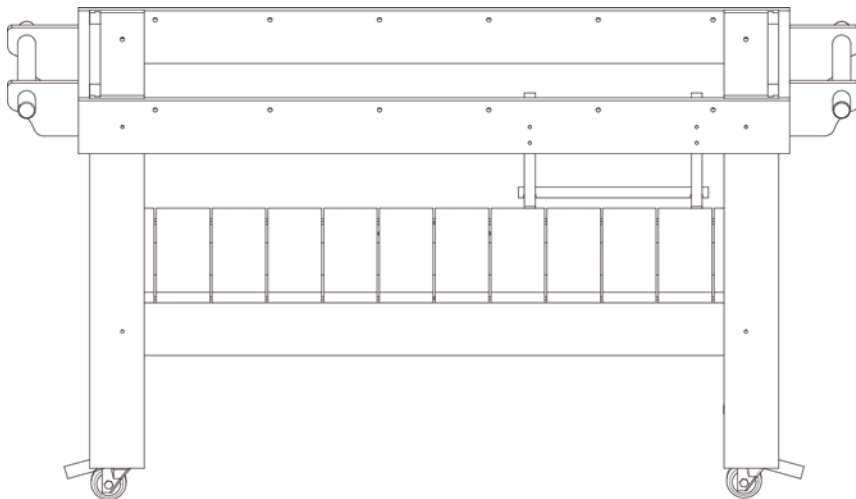

Figure 9
STEP 2 Assemble the wood grill table all except the two table top pieces. (The wood grill table installation instruction sheet is included inside the box of the table.) (See figure 9)